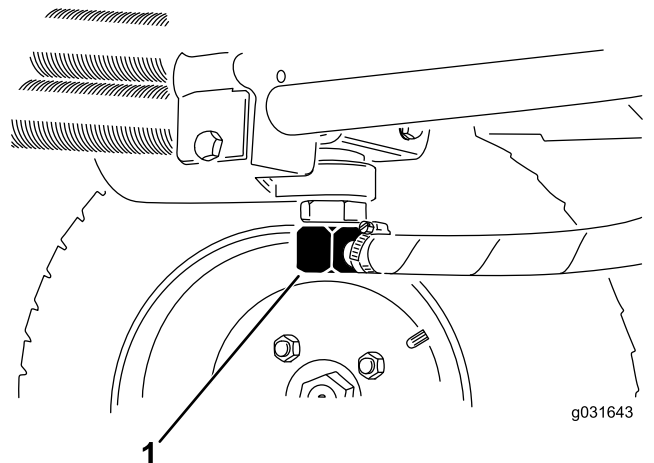
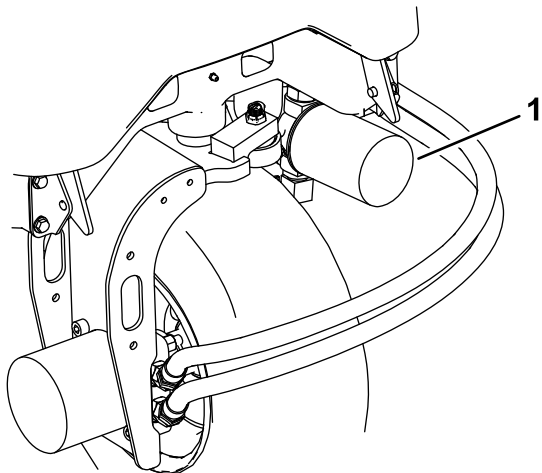

Figure 59
Figure 61
2. Disconnect the hydraulic line or remove the hydraulic filter and let the hydraulic fluid flow into a drain pan (Figure 61 and Figure 59).
3. Install the hydraulic line when the hydraulic fluid stops draining (Figure 59).
3. Clean around the filter-mounting area, place a drain pan under the filter, and remove the filter (Figure 61).